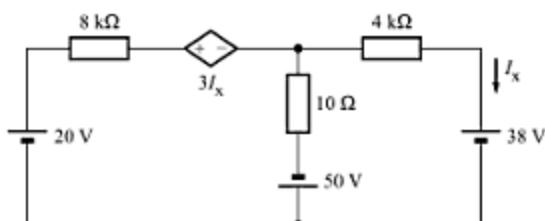

Fig. A-102
- A-66.** Determine the current I_x in the circuit of Fig. A-102.